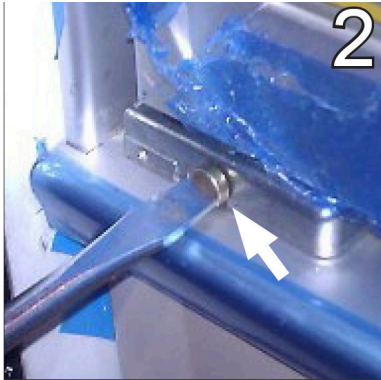

Fig. 70 Release tension from closing mechanism
2. Release the tension from the closing mechanism at the bottom of the door using a flat-head screwdriver, turning until the door tension to self close is eliminated (i.e. the door does not close by itself when left open) (Fig. 70).